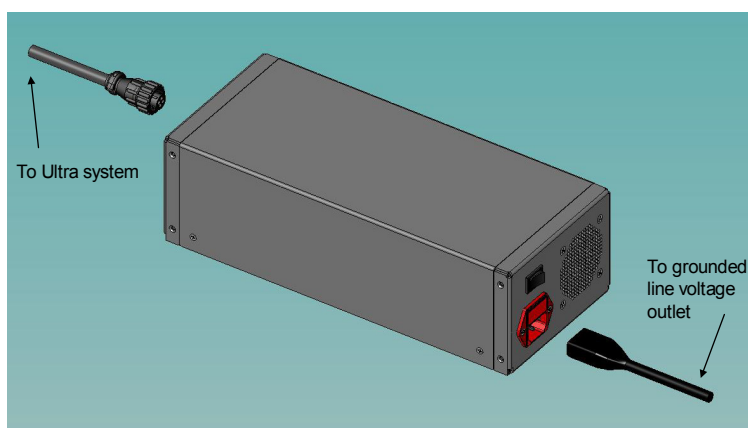
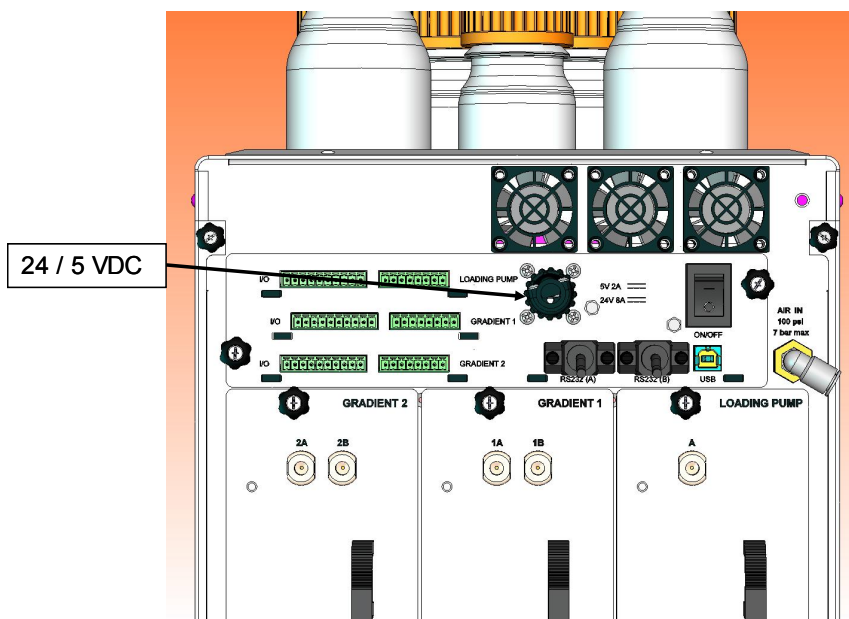

Figure 2-4 Eksigent Power Supply—Power Connection
Figure 2-5 Rear Panel—Power Connection
1. Insert the Eksigent power supply's plug into the connector located on the back of the instrument and the power supply (Figure 2-4 and Figure 2-5).